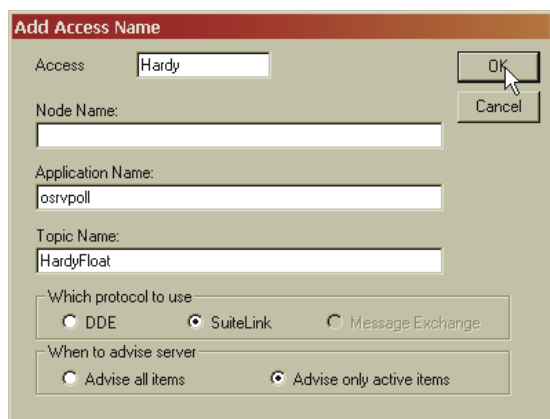

FIG. 246: WINDOWMAKER/ADD ACCESS NAME DIALOG BOX
Step 32. Click on the Add... button. The Add Access Names dialog box appears. (See Fig. 246)